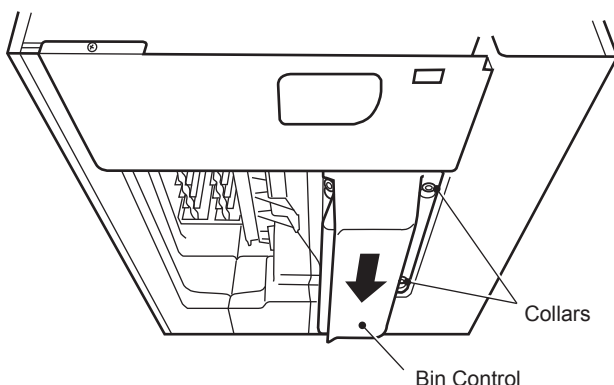

Fig. 5
7) While pulling up the bin control lead, hook the bin control on the right side interior wall. Then push the bin control up against the bottom of the unit, and slide to the back until it snaps in place. Make sure the slotted holes at the right side of the bin control are securely placed on the collars at the bottom of the unit. See Fig. 5.